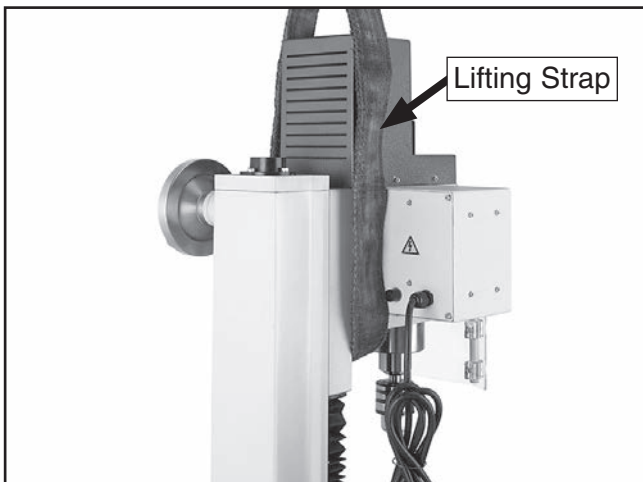

Figure 7. Lifting strap.
4. Hang a lifting strap from the fork of a forklift and place it under the head of the mill/drill, as shown in **Figure 7**. Take care not to place the straps over any controls that may be damaged during transit.